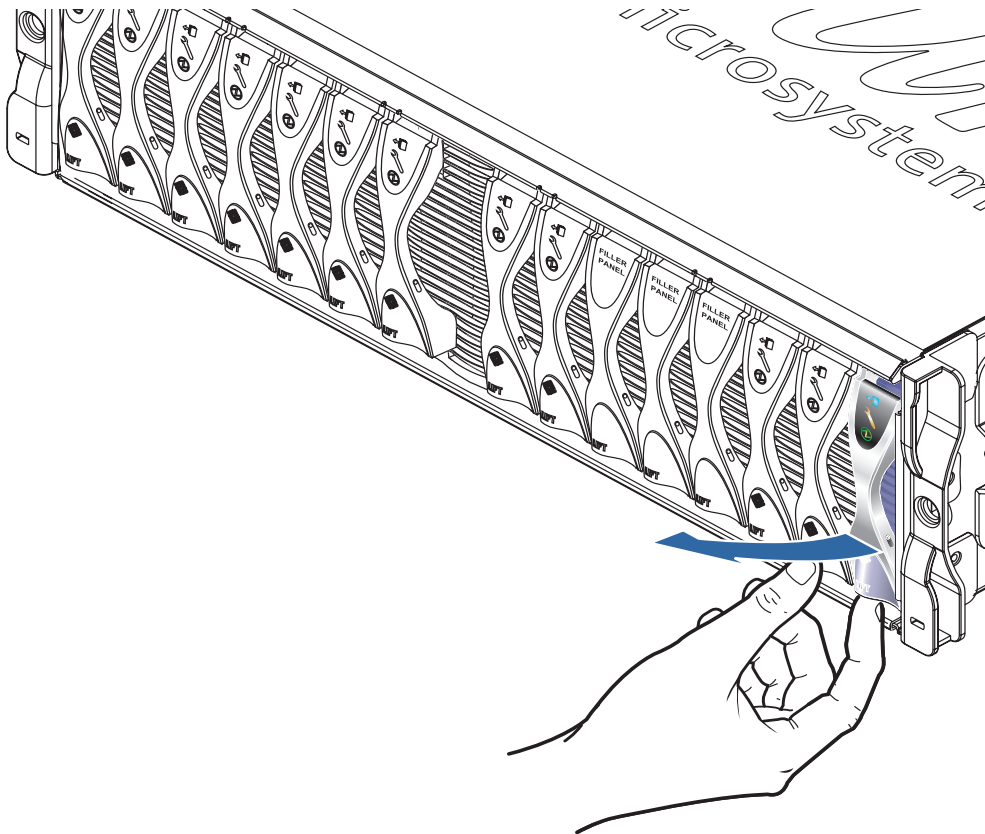

FIGURE 12-2 Disengaging the Blade Locking Mechanism
2. **Insert your finger in the pull recess located at the bottom front of the blade lever and pull gently to disengage the locking mechanism (FIGURE 12-2).**